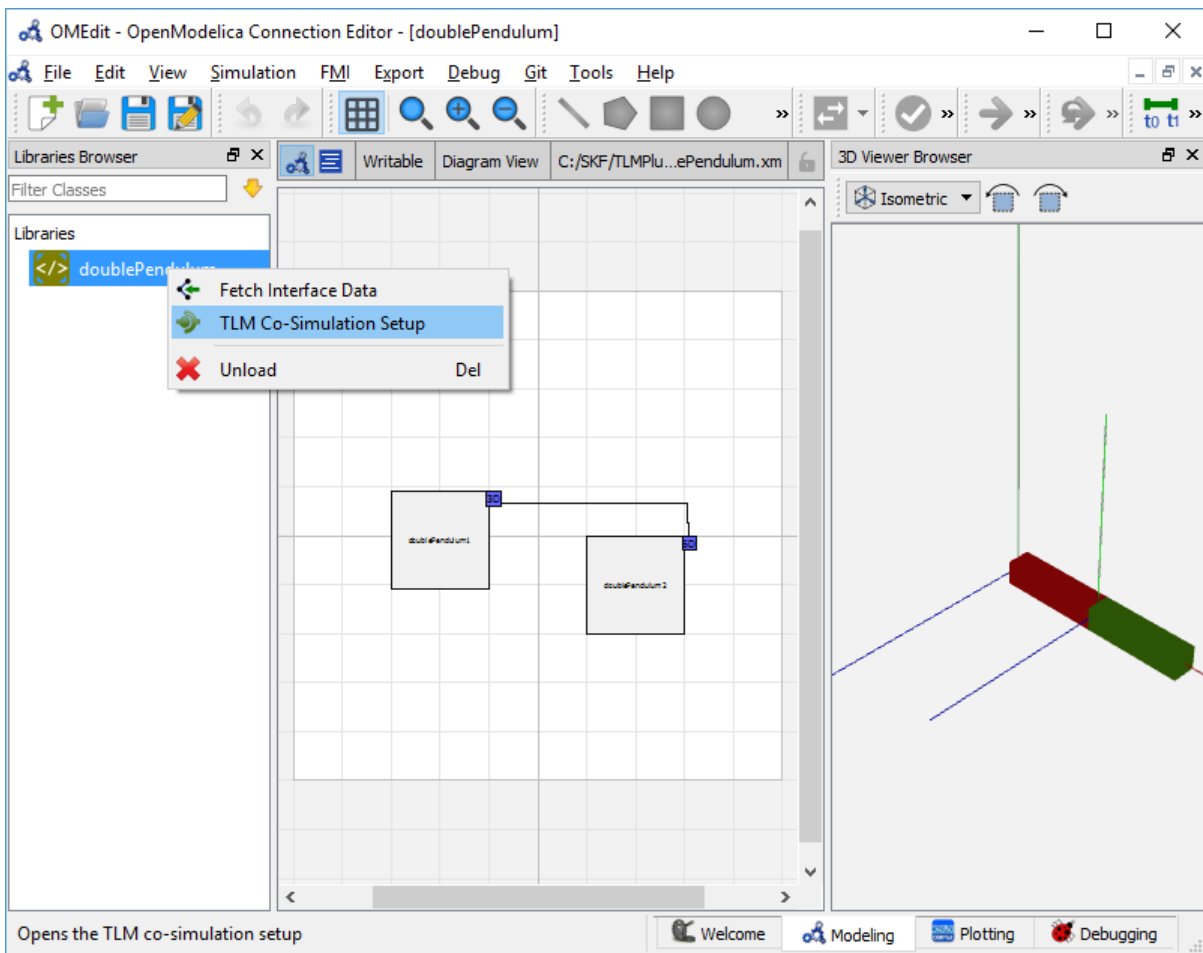

Figure 10.3: Co-simulating and Fetching Interface Data of a composite model from the Popup Menu .
- Right click the composite model in the **Libraries Browser** and choose **TLM Co-Simulation setup** from the popup menu (see Figure 10.3)
- Right click the composite model in the **Library Browser** and choose **Fetch Interface Data** from the popup menu (see Figure 10.3).